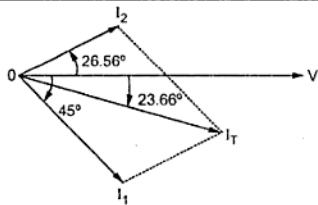

Fig. 5.46
The phasor diagram is shown in the Fig. 5.46.
► **Example 5.16 :** A parallel circuit of 25Ω resistor, 64 mH inductor and $80 \mu\text{F}$ capacitor connected across a 110 V , 50 Hz , single phase supply, is shown in Fig. 5.46. Calculate the current in individual element, the total current drawn from the supply and the overall p.f. of the circuit. Draw a neat phasor diagram showing \bar{V} , \bar{I}_R , \bar{I}_L , \bar{I}_C and \bar{I} .